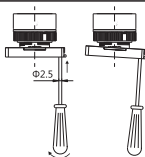

Figure 5 Disassembly diagram of plastic head type base
② Before installing plastic head type button, remove the base first (insert a screwdriver into the hole on the base and pry it up, as shown in Figure 5). Tighten the nuts with a torque of 1.2N·m~1.8N·m.
③ For NP2-B□□□□, NP2-J□□□□ buttons with cases, there are two Φ 21mm cable holes on both sides of their bottom covers. Before installation, user should perforate the cable hole as needed (do not use too much force). If IP40 is required for overall enclosure protection, user should pay attention to the protection of the cable holes and the screw holes on bottom cover. The cable holes can be protected by using cable connectors with matching specifications or other effective measures. The tightening torque for the installation of button box case should not exceed 1.2N·m.